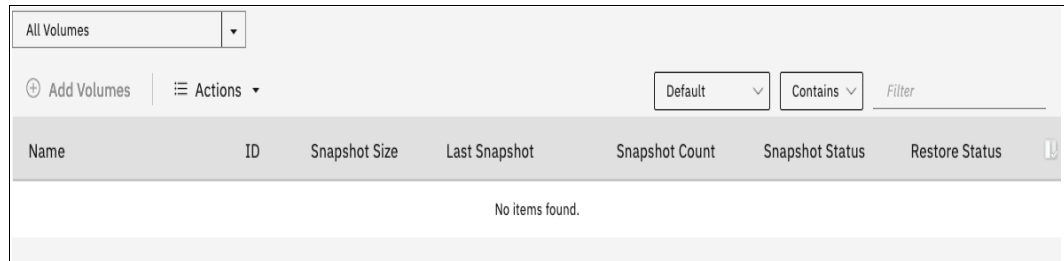

Figure 10-71 Cloud Volumes window
2. A new window opens, and you can use the GUI to select one or more volumes that you need to enable a cloud snapshot or you can add volumes to the list, as shown in Figure 10-71.